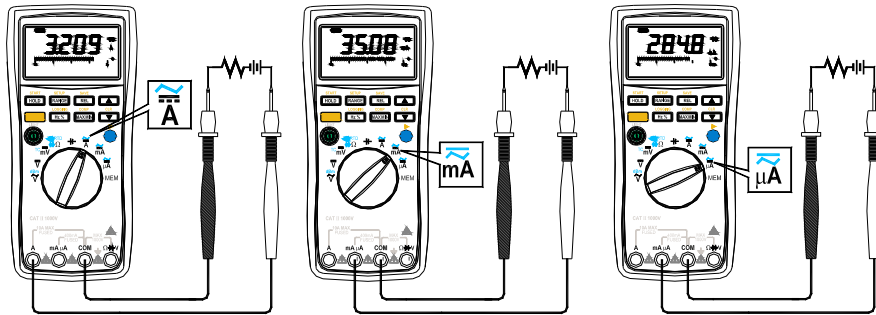

Figure3-11.DC Current Measurement
**Measuring Current (See Figure3-11, Figure3-12)**